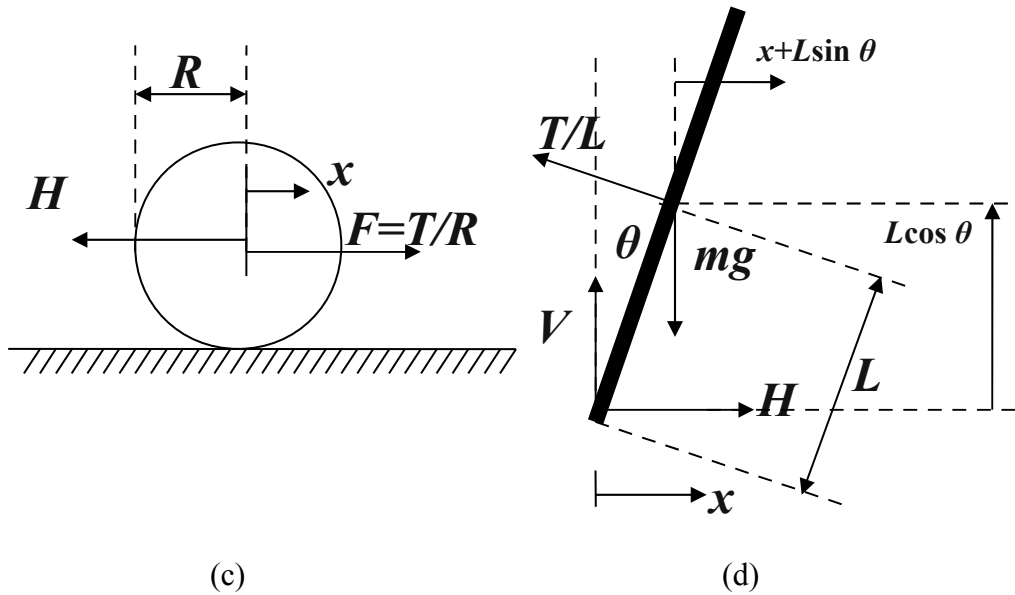

Figure 4. Modeling the Segway transportation system.
A Segway transportation vehicle, shown in Figure 4(a), is a two-wheeled device that can be steered by controlling the angle of the steering bar. When it moves forward or backward, it can be modeled as an inverted pendulum as depicted in Figure 4(b). The pivot of the pendulum is mounted on a base that can move in a horizontal direction. The base is mounted on a wheel driven by a motor that exerts torque  $T$ . The mass of the base and wheel is  $M$  and the mass of the pendulum is  $m$ . Assume that the wheel is not slipping on the surface, i.e., the horizontal force  $F = T/R$  is exerted on the base where  $R$  is the radius of the wheel.
In order to use the Newtonian approach, the inverted pendulum can be decomposed into two components as illustrated in Figure 4(c) and 4(d).
In Figure 4(c), there are two forces acting on the base,  $F$  being the force exerted by the motor and  $H$  being the reaction force from the pendulum.
Figure 4(d) shows the forces acting on the pendulum, which are  $mg$  at the center of mass, the reaction horizontal force from the base  $H$ , the vertical reaction force from the base  $V$  at the pivot of the pendulum, the horizontal force  $T/L \cos\theta$  and vertical force  $T/L \sin\theta$  at the center of mass due to the reaction torque from the wheel. The distance from the center of mass to the pivot is given by  $L$ .
- Using the diagram in Figure 4(d), write down the horizontal and vertical Newton's laws of the pendulum at the center of mass. (Note that the coordinate of centre of mass is  $(x+L\sin\theta, L\cos\theta)$ .) (Marks: 4).
- Using the diagram in Figure 4(d), write down the rotational motion of the pendulum around the center of mass. (You can use  $J$  as the moment inertia of the pendulum). (Marks: 3).
- Using the diagram in Figure 4(c), write down the horizontal Newton's laws of the base. (Marks: 3).